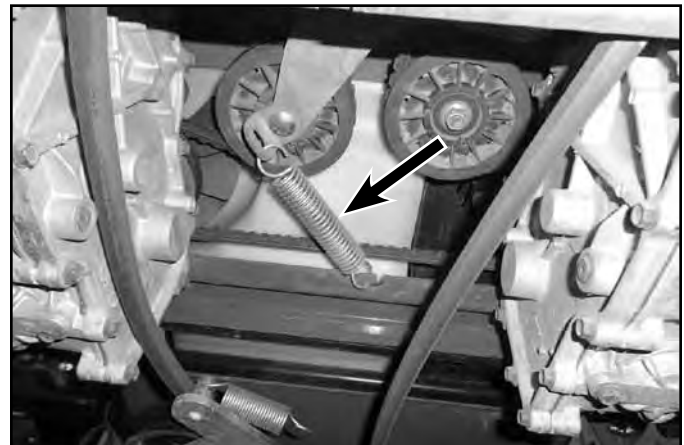

Fig. 057
15. Install the drive belt tensioner spring as oriented below (Fig. 057).